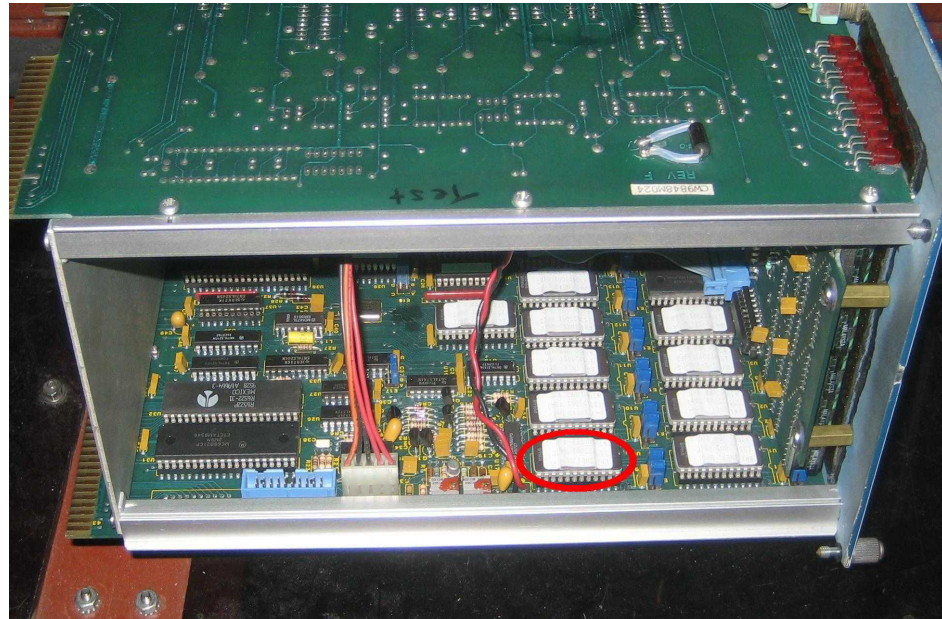

Figure 3: SI Keyboard module with EPROM U-9 circled in red.
- Locate the EPROM labeled U-9. The correct EPROM is shown in figure 3